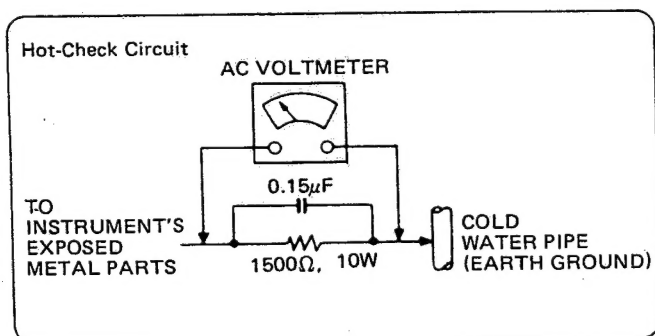

Figure 1
LEAKAGE CURRENT HOT CHECK (See figure 1.)
2. Connect a 1.5 k Ω , 10 watts resistor, in parallel with a 0.15 μ F capacitor, between each exposed metallic part on the set and a good earth ground such as a water pipe, as shown in figure 1.